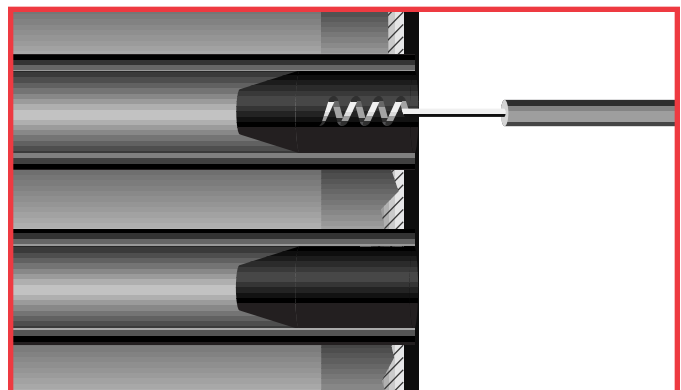

Figure 38. Remove stoppers with a packing puller.
- Wait** at least 18 hours after the coating has been applied before taking out the stoppers. Then take a packing puller or large pliers and pull out all the rubber stoppers. (See figure 38)